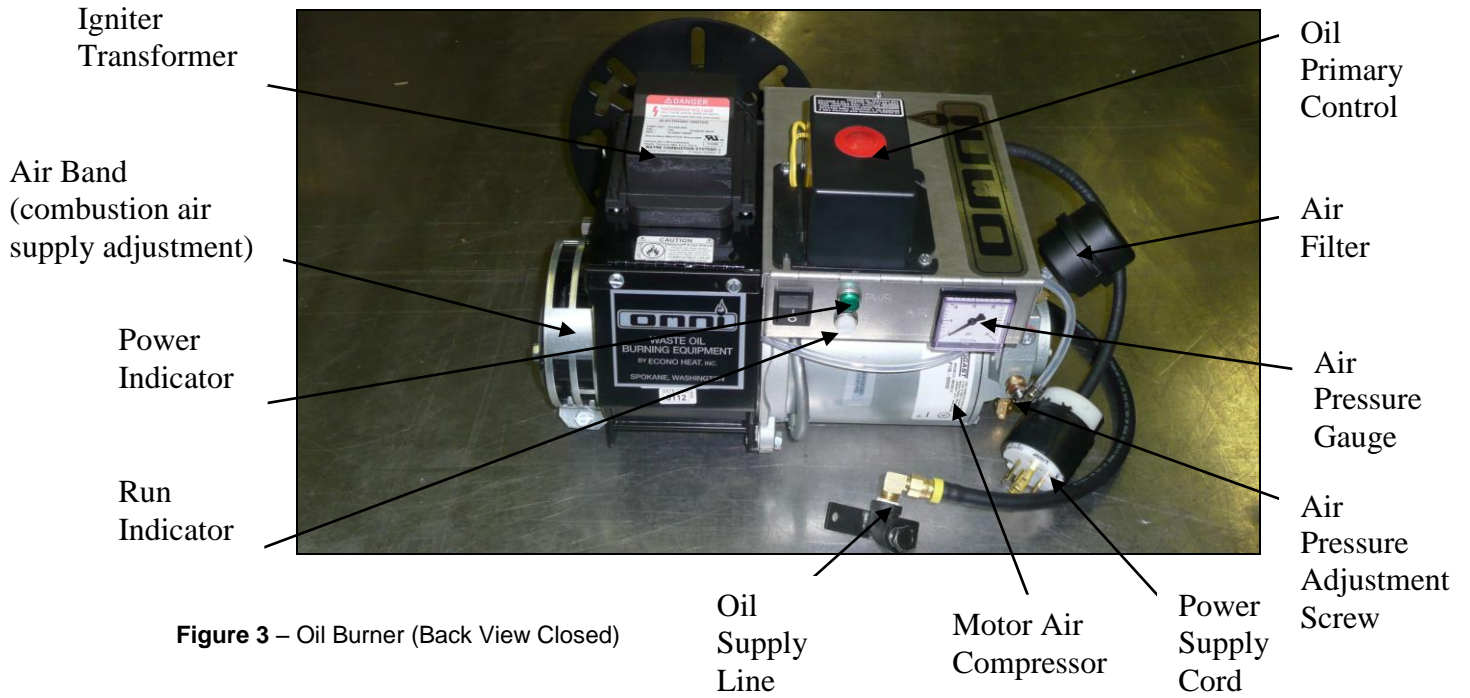
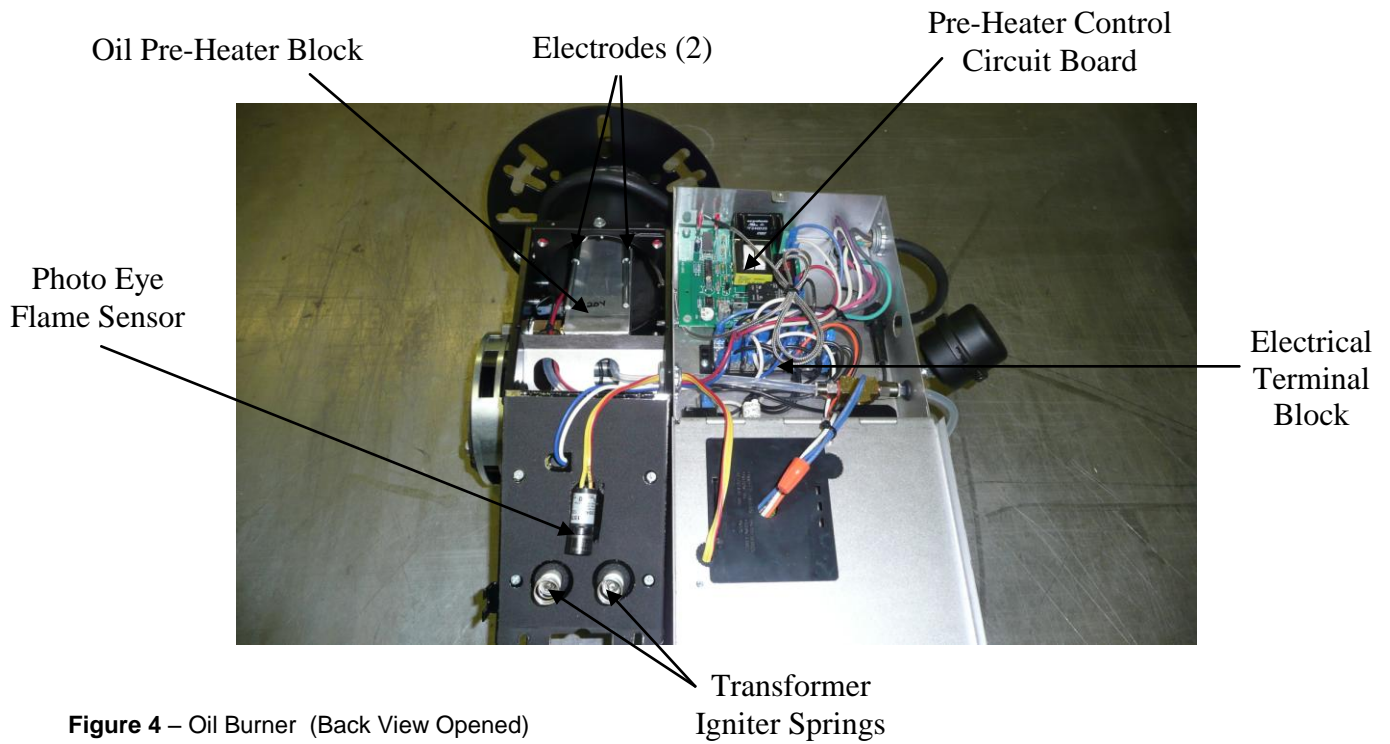
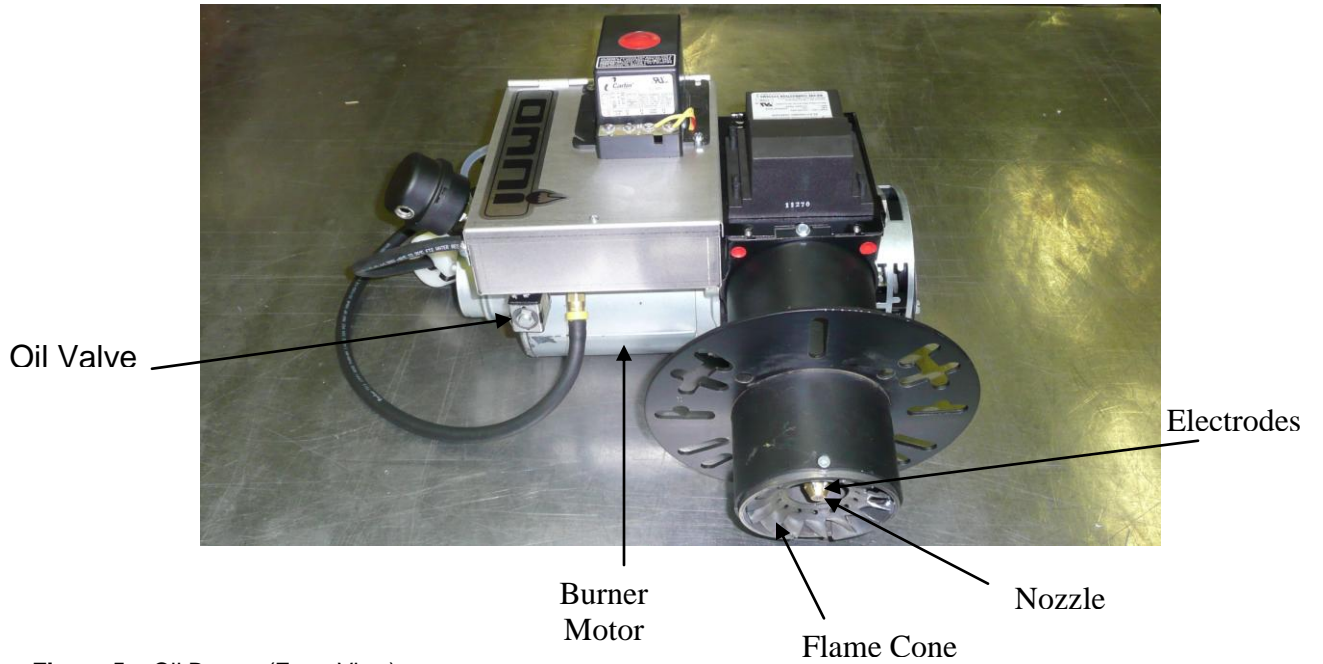

Figure 3 – Oil Burner (Back View Closed)
Figure 4 – Oil Burner (Back View Opened)
Figure 5 – Oil Burner (Front View)
3. Wire low voltage thermostat into “T” marked terminals on oil primary control on burner. (Box on burner gun assembly with red reset button). (figure 3).
Omni's patented burner technology improves the efficiency of the oil burn process by continuous stabilization of the oil viscosity. Optimum atomization (spray) is accomplished by precisely pre-heating the oil and air prior to introduction to the combustion chamber. The waste oil enters into the Oil Pre-Heater Block (figure 4) and is pre-heated to operating thermo setpoint, then compressed air from the air compressor (figure 3) is mixed with the oil prior to spraying out the nozzle similar to fuel injection, by breaking up the oil droplets into a finer mist or spray (atomization). Electrodes mounted just above the nozzle (figure 5) provides continuous electrical arc across electrode to electrode igniting the fine oil mist as it sprays out of the nozzle. Once ignited the flame is forced into a swirl caused by the burners blower and specially designed flame cone (figure 5) providing a very efficient and thorough burn of the waste oil.
- **Igniter Transformer:** (figure 3) Supplies high voltage to the electrodes generating electrical arc igniting the oil.
- **Oil Valve:** (figure 5) energizes when burner is running and de-energizes when burner is not running eliminating bleed back of oil out of the Pre-heater block.
- **Air Band:** (figure 3) Adjusts amount of air introduced into the combustion chamber. Air band is adjusted at the factory for optimum performance, approx. ½ to ¾ inch open. **NO FIELD ADJUSTMENT REQUIRED** unless in high altitudes application where minor adjustment may be required.
- **Oil Primary Control:** (figure 3) Controls the oil burner ignition. Checks for flame in the combustion chamber, if no flame is detected within 45 seconds, the oil primary will shutdown the oil burner. To restart the unit, reset the red button on the oil primary.
- **Oil Pre-Heater Block:** (figure 4) Pre-heats the oil and air before entering combustion chamber.
- **Photo Eye:** (figure 4) Senses flame in combustion chamber and signals oil primary when no flame is present.
- **Igniter Springs:** (figure 4) Transfers the high voltage from the igniter transformer to the electrodes (when door is closed)
- **Air Pressure Gauge:** (figure 3) Displays air pressure supplied by onboard air compressor.
- **Air Compressor:** (figure 3) Supplies air used within pre-heater block to aid in atomization of the oil.
- **Air Muffler/Filter:** (figure 3) Filters air and muffles the sound generated by the compressor.
- **Pre-Heater Control Circuit Board:** (figure 4) Precisely controls temperature of the Oil Pre-Heater Block and controls safety feature of not allowing burner to energize until oil has established operating thermo setpoint or shutdown burner if Pre-Heater Block temperature falls below shutdown thermo setpoint.
- **Electrodes:** (figure 4 and 5) Provides continuous high voltage electrical arc from electrode to electrode igniting the waste oil as it is being sprayed out of the nozzle.
- **Nozzle:** (figure 5) Low-pressure nozzle for oil spray pattern.
- **Flame Cone:** (figure 5) Specially engineered flame cone forces the flame into a swirl pattern improving the burn thoroughness.
- **Burner Motor:** (figure 5) Multitask motor turns the burner blower and integrated air compressor.
- **Air Pressure Adjuster:** (figure 3) Adjusts the air pressure going to the pre-heater block. Should be adjusted between 12 PSI and 13PSI as indicated on the Air Pressure Gauge on the burner for thorough burn of the waste oil.
- **Power Indicator:** (figure 3) Indicates when power is present at the burner.
- **Run Indicator:** (figure 3) Indicates that the burner is ready for operation after the initial pre-heat time of approx. 5 minutes from initial power up.
4. Making sure the thermostat is turned off, apply power to the burner. Switch burner main power switch to ON position. After allowing the oil pre-heater time to establish temperature setpoint, approximately 5 minutes. Jump the "T" terminals on the Oil Primary Control (figure 3). Once the burner is running, temporarily jump the "F" terminals on the Oil Primary. This will allow the burner to run during the pump priming process.
7. Combustion air band (figure 3) should be open approximately 1/2" or until flame is clear yellow, not orange. Opening the air band too far may cause delayed in starting or even prevent the flame from starting.
11. Making sure the thermostat is turned off, apply power to the burner. Switch burner main power switch to ON position. After allowing the oil pre-heater time to establish temperature setpoint, approximately 5 minutes. Jump the "T" terminals on the Oil Primary Control (figure 3). Once the burner is running, temporarily jump the "F" terminals on the Oil Primary. This will allow the burner to run during the pump priming process.
14. Combustion air band (figure 3) should be open approximately 1/2" or until flame is clear yellow, not orange. Opening the air band too far may cause delayed in starting or even prevent the flame from starting.
--- Swing out burner assembly clean out door and clean flame cone. (figure 5 and figure 8).
--- Replace nozzle every 5-7 years depending on usage (figure 5, 9, 11). Will lose efficiency due to erosion. This can be accessed by swinging burner clean out door open. (figure 8)
Electrodes are adjusted at time of manufacture. However, they should be check periodically and at time of installation, to be sure they are set as noted in the following dimensional drawing. Swing burner clean out door back for inspection. (figure 5, 10, and 11)